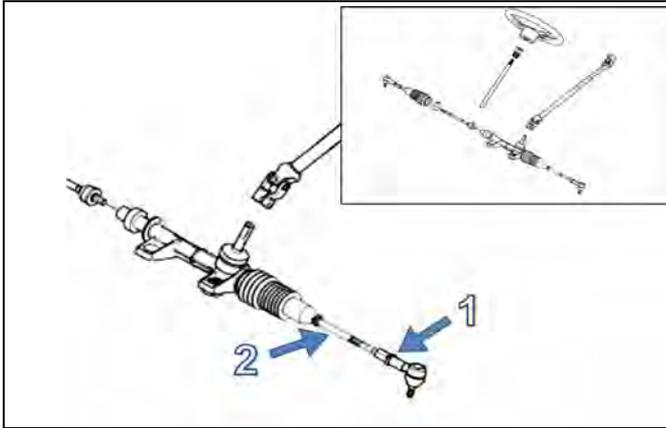

Figure 19
To adjust the SxS's steering system, first, loosen coupling rod nut (1), screw or unscrew the coupling rod (2) an equal number of revolutions on both sides of the vehicle. See Figure 19.